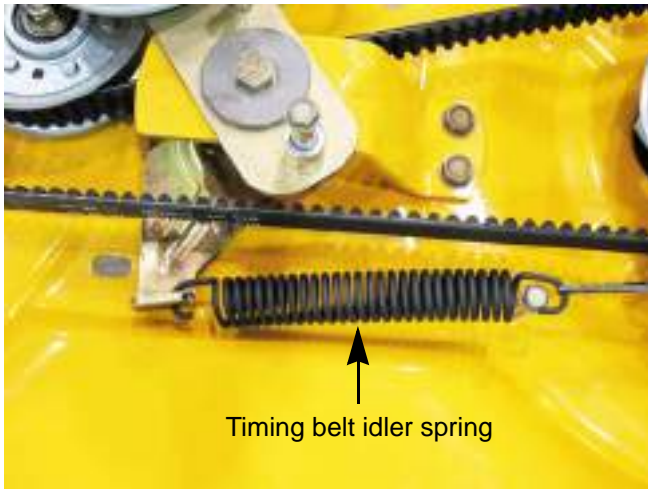

Figure 8.11
5. Remove the timing belt idler spring. See Figure 8.11.